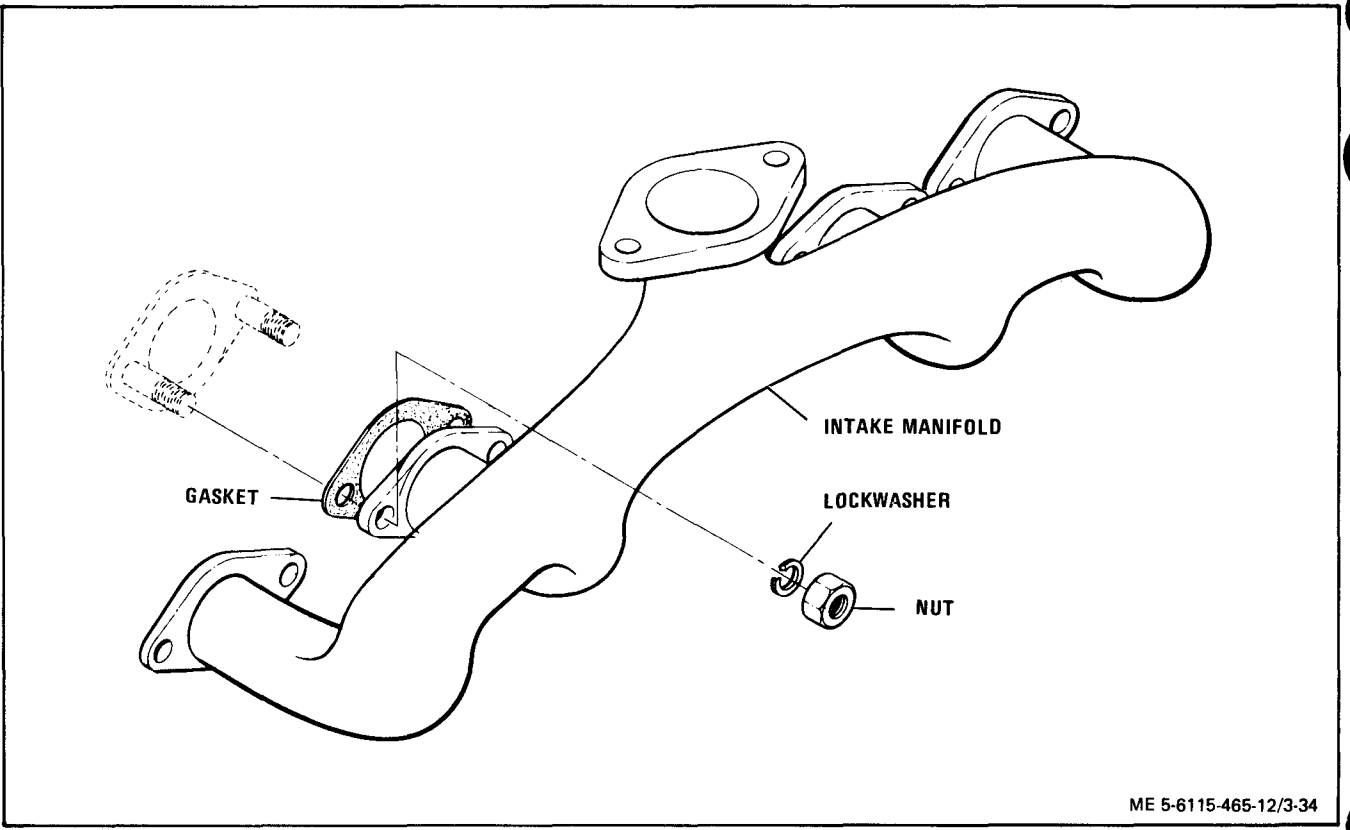

Figure 3-34. Intake Manifold, Removal and Installation
(1) Refer to paragraph 3-101 and remove air cleaner assembly.
(2) Remove nuts and lockwashers (figure 3-34) to remove intake manifold and gaskets. Discard gaskets.